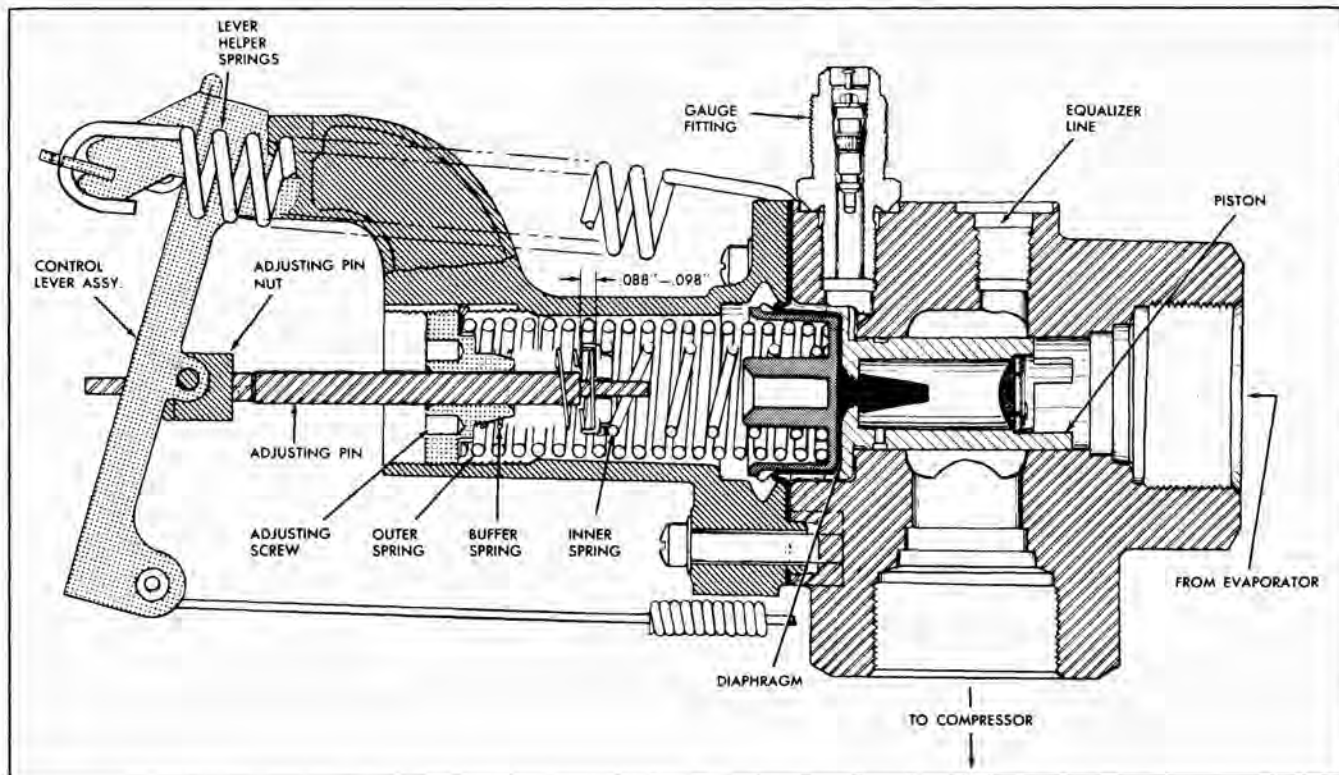

Fig. 6-43 Cross Section of Temperature Regulation Valve
11. Place valve on evaporator inlet end and measure the distance from the top of the adjusting pin with the lever in the "free fall" position and with the lever full up against the stop. This distance should be .088" to .098". Adjust by turning pin. This is the clearance between the shoulder at the bottom of the adjusting pin and the buffer spring seat (Fig. 6-43).